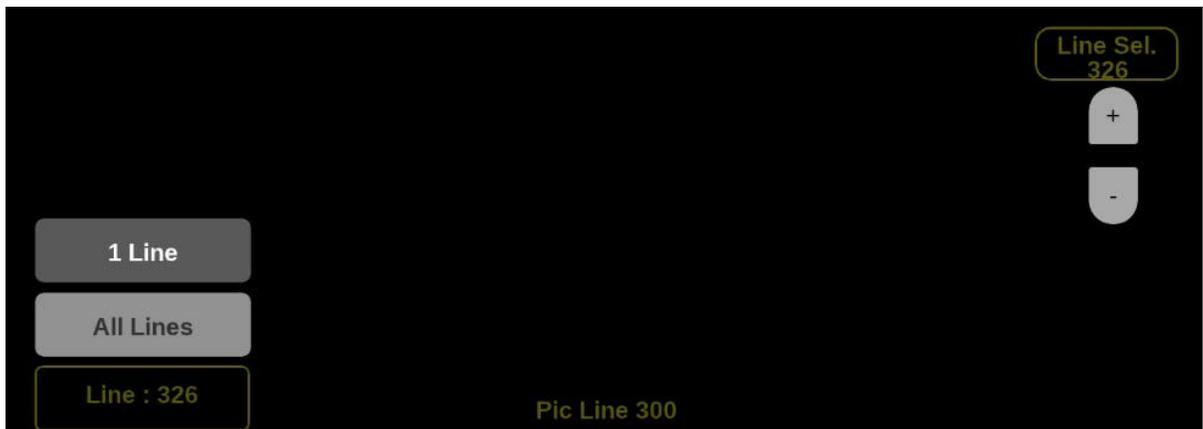

Figure 214: Lightning on-screen tools – Line Select
If **1 Line** is selected then the display will only show results for the selected line in the picture. The line can be selected using the on-screen tools. (See Line Select function.) Or the line can be selected directly on the Picture. (See Figure 214.)
1. Select the **Lines** button at the bottom of the application. (See Figure 214.)